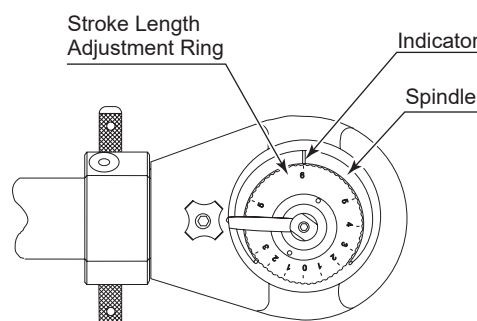

Fig. 7
- Turn the adjustment ring, while holding the spindle with your finger, and align the desired stroke length with the indicator line. The stroke length can be adjusted between 0 - 6 mm. (0 - 0.236") (Fig. 7)